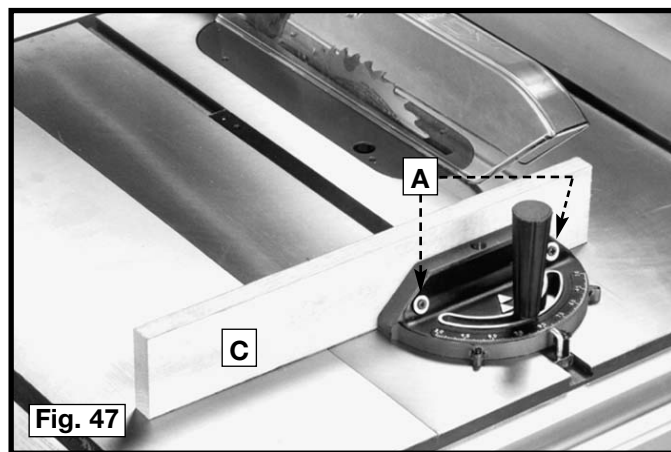

Fig. 47
For added safety and convenience the miter gauge can be fitted with an auxiliary wood-facing (C), as shown in Fig. 47, that should be at least 1 inch higher than the maximum depth of cut, and should extend out 12 inches or more to one side or the other depending on which miter gauge slot is being used. This auxiliary wood-facing (C) can be **fastened** to the front of the miter gauge by using two wood screws (A) through the holes provided in the miter gauge body and into the wood-facing.